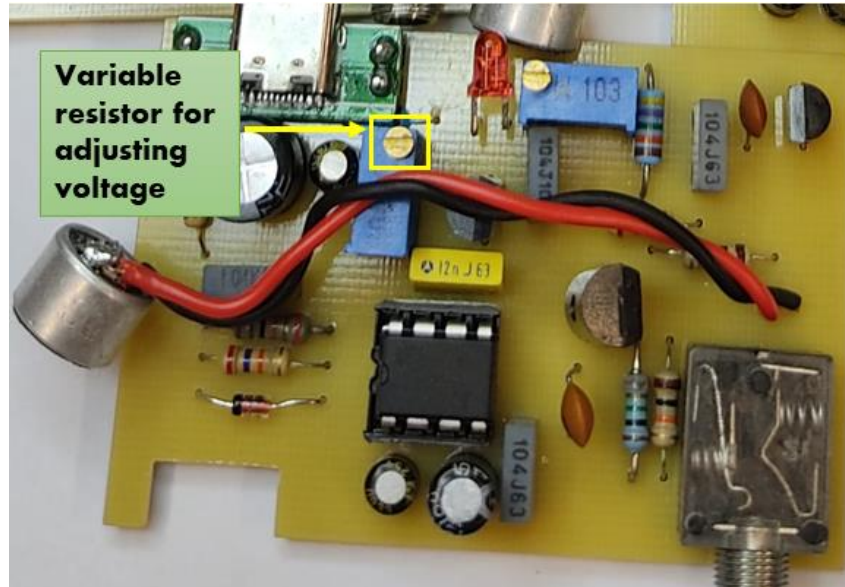

Figure 2: The variable resistor that is rotated to adjust the voltage between the specified points mentioned in Step 2.
3. To tune the voltage value at these points (**Figure 1**), adjust the resistance of the variable resistor located on the PCB of PhysBell (see **Figure 2**). Keep adjusting the variable resistance until the voltage value on the Multimeter (measured at the points labeled in **Figure 1**) is in the range of 1.35 ± 0.1 V.